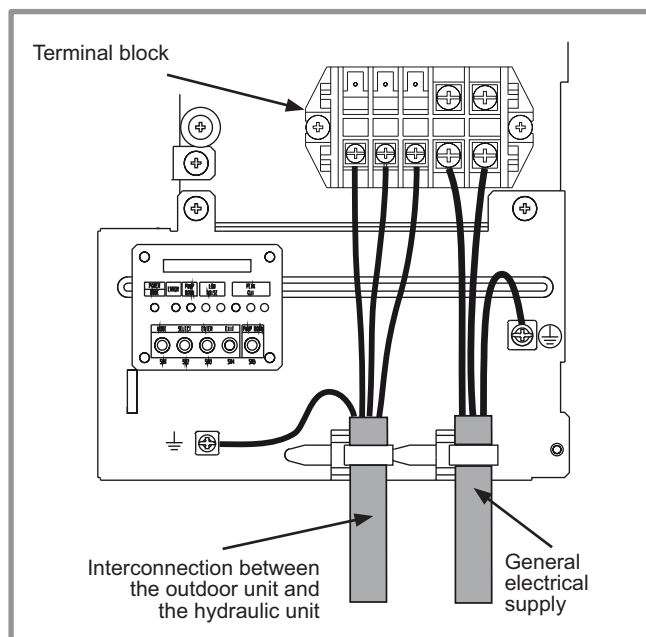
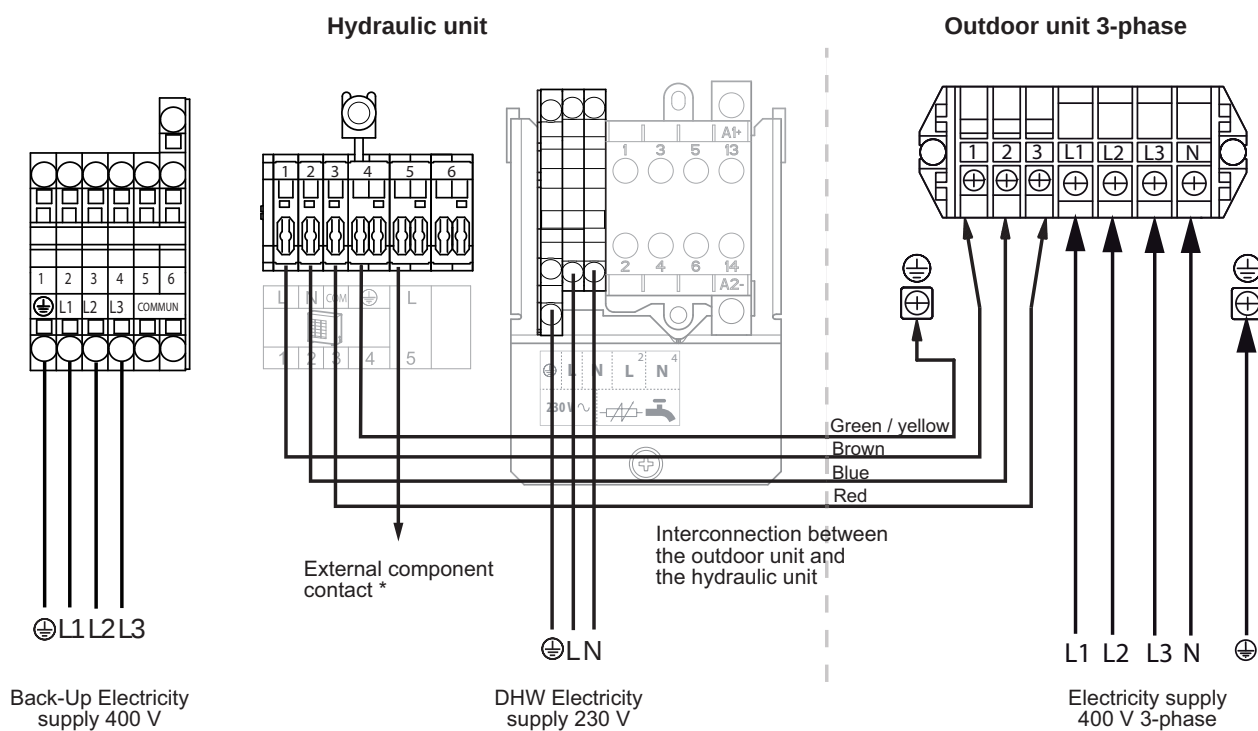

figure 32 - Connections to single phase outdoor unit's terminal block
figure 41 - Connection to terminal block and power relays
- Make the connections in accordance with the diagram **figure 32** and **figure 41**, page 33.
- Make the connections in accordance with the diagram (figure 41, page 33).